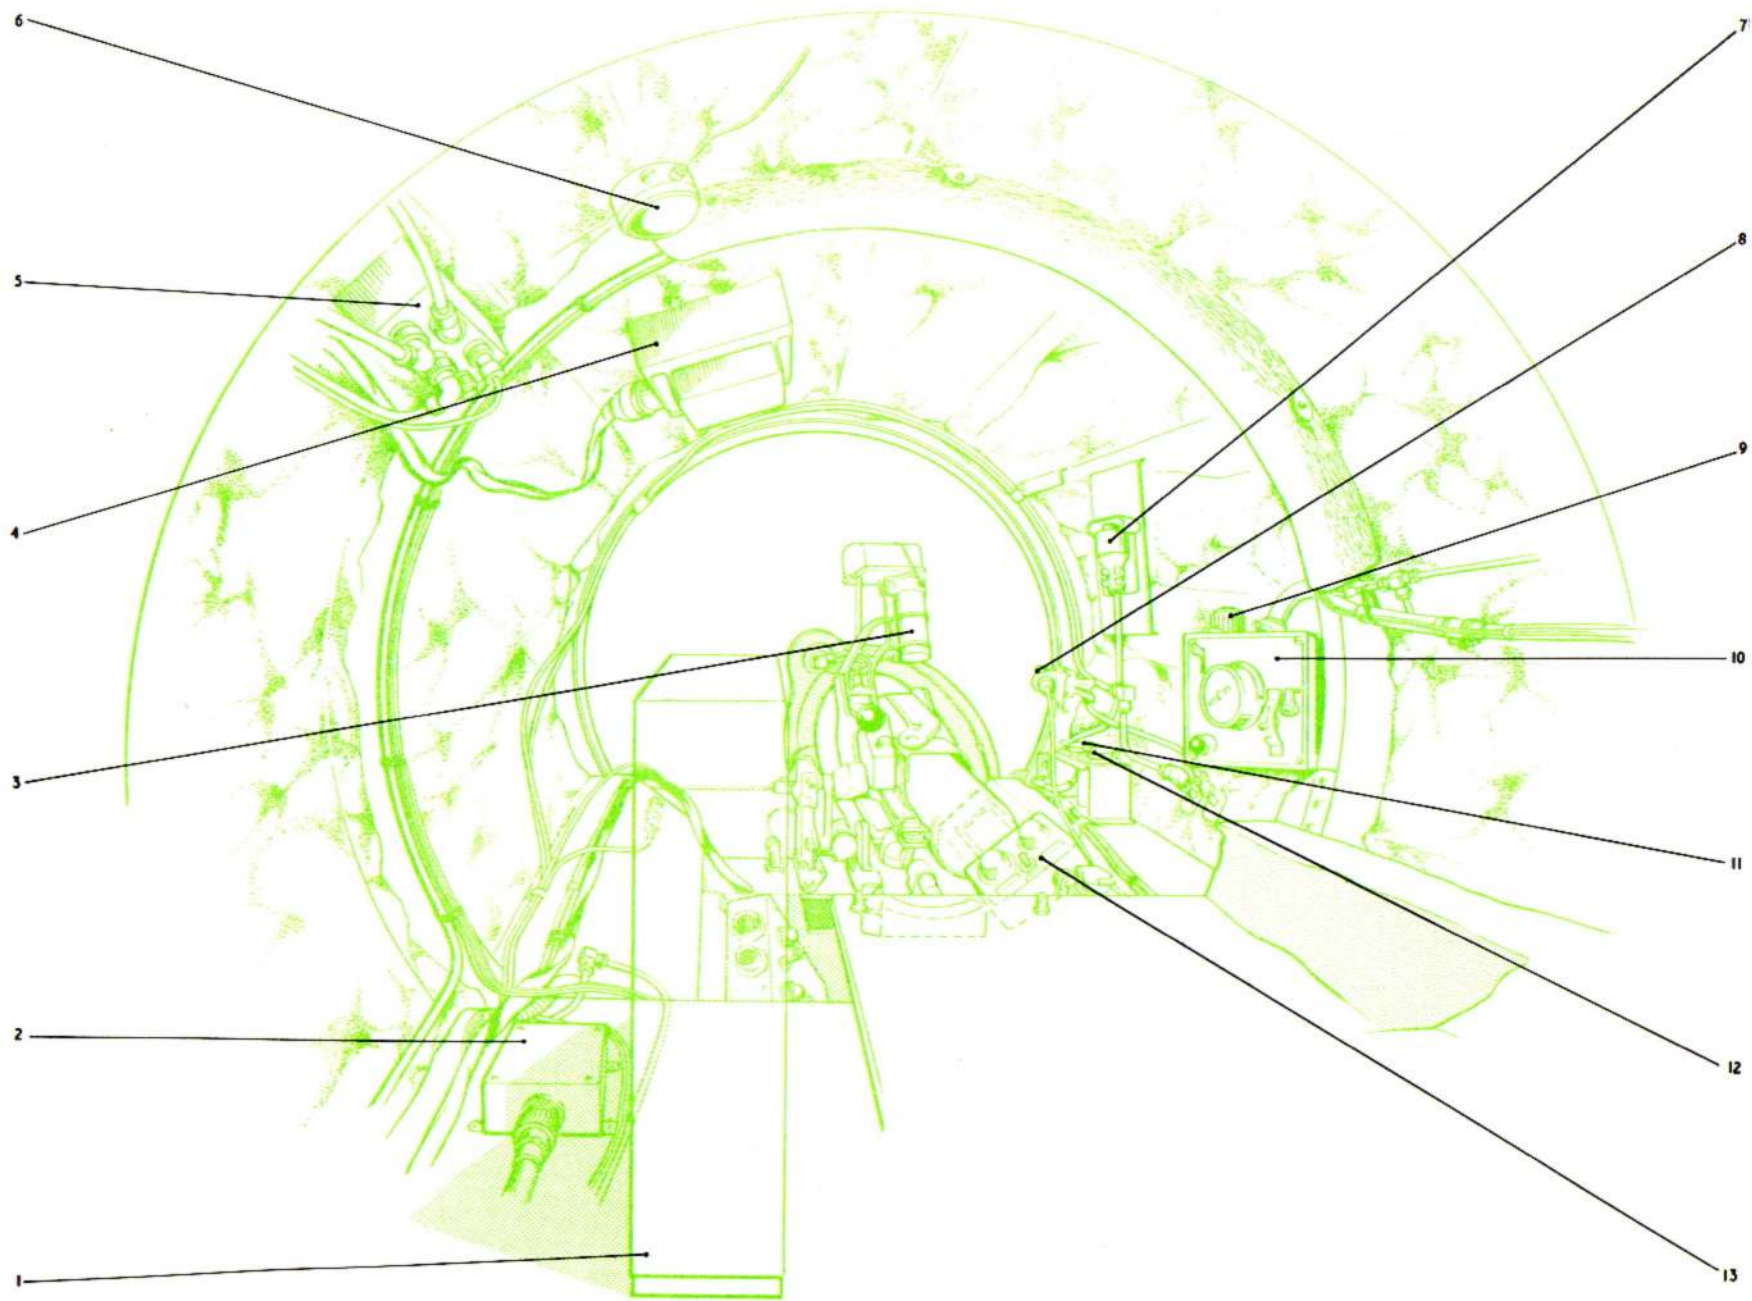

Fig.6. Air bomber's forward station (BMk.6 aircraft)
**KEY TO FIG.6 (AIR BOMBER'S FORWARD STATION – B MK.6 AIRCRAFT)**